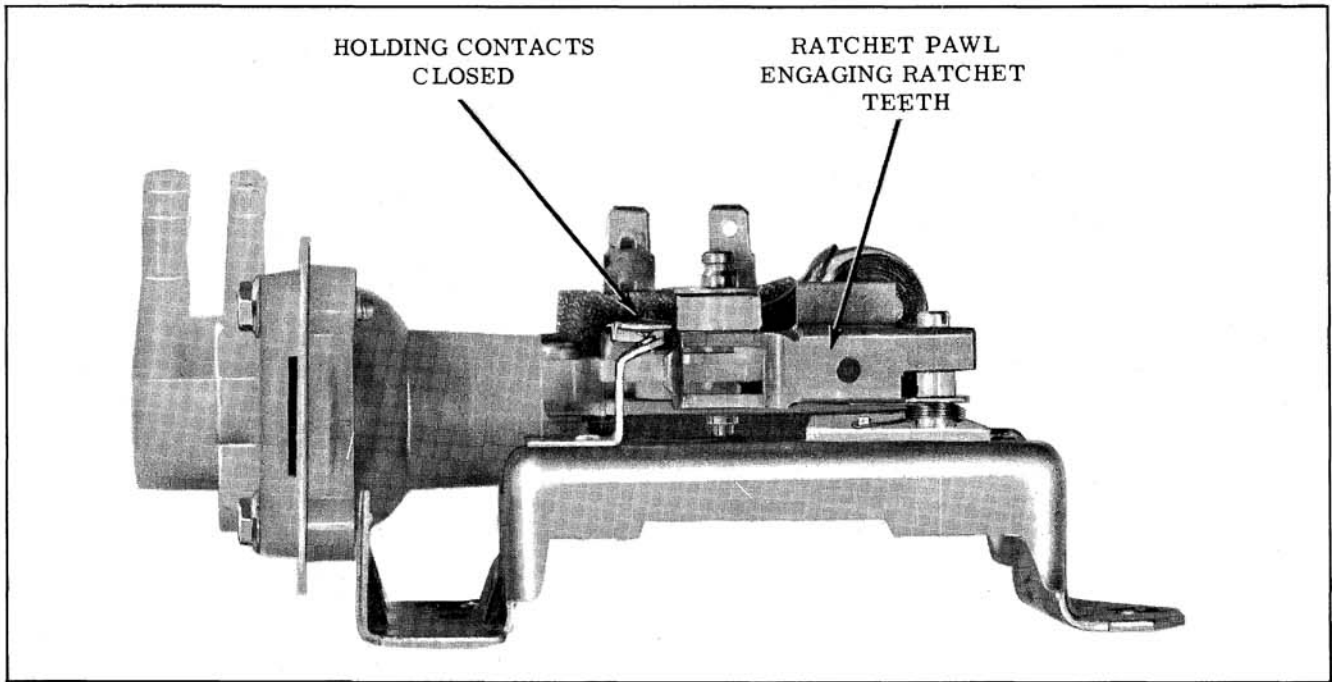

Fig. 13-199 Relay Coil Energized
With the washer coil energized, the pawl, normally held away from the ratchet by spring force, is pulled towards the coil pole and engages the ratchet wheel. The ratchet pawl and plate assembly, which moves back and forth any time the wiper is on, now starts to rotate the ratchet wheel. (Fig. 13-199)
2. A set of holding contacts close (Fig. 13-199) maintaining the coil circuit to ground. The contacts remain closed until the ratchet wheel is turned through 360°, at which time the ratchet wheel again opens the contacts.